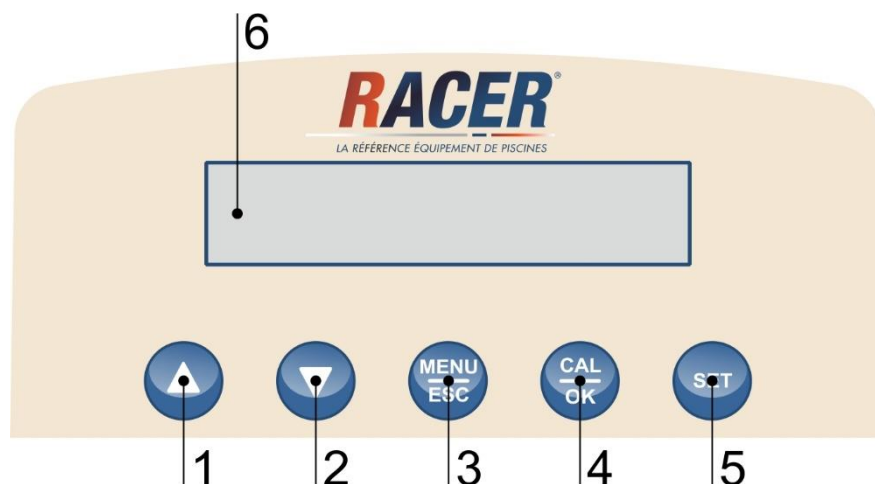

Fig. 4 – Pannello Comandi
Press in the same time arrow up (1) and arrow down (2), (fig. 4).
With the pump in stand-by at the same time press MENU/ESC (3) and CAL/OK (4) (FIG.4).